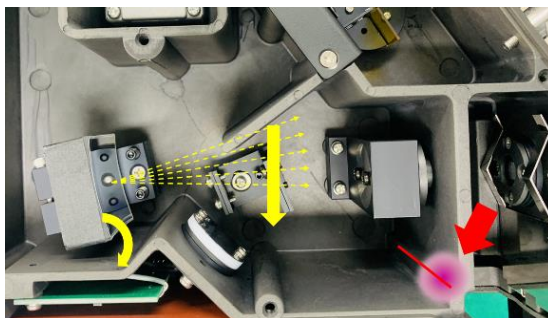

Figure 12. Setting the initial position to adjust the grating position.
- d. Carefully move the grating holder to the direction indicated with yellow arrow in Figure 12 with your hand.
- e. Find the purple light beam appears at the location of the red arrow and line shown in the Figure 12.